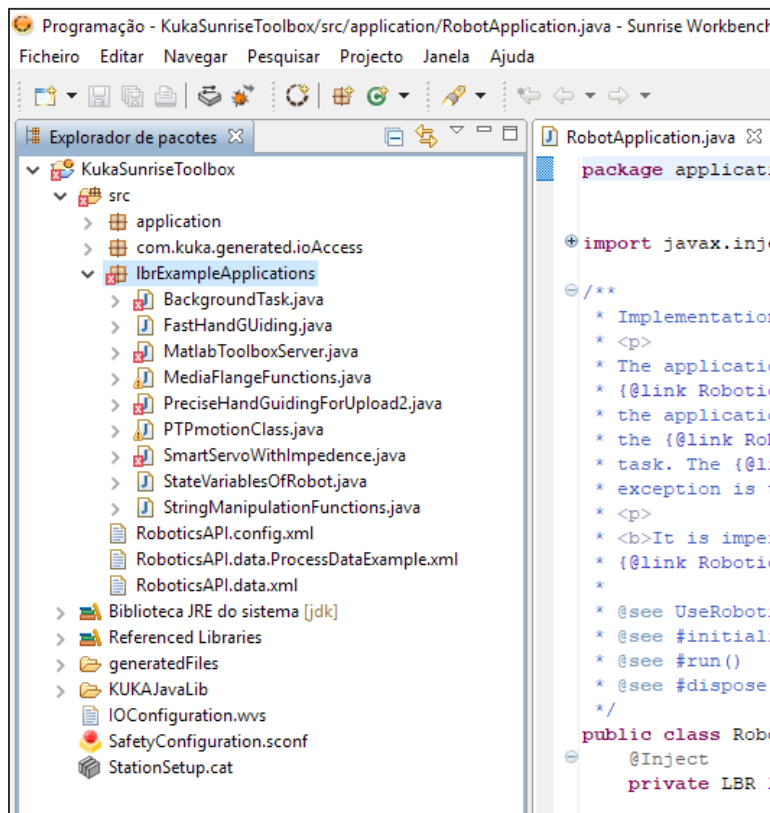

Figura 3 Copy Java files into the lbrExampleApplications package
- 5- Then, if you have a touch-pneumatic flange unzip the file **KST\_1.7\_iiwa\_pneumaticFlange.rar**, on the other hand if you have any other type of flange then unzip the file **KST\_1.7\_iiwa\_universal\_noFlange.rar**. Those files are found in the folder **KUKA\_Sunrise\_server\_source\_code** inside the **KST** repository, after unzipping copy the Java files, and paste them directly under the newly created package as demonstrated in Figura 3.